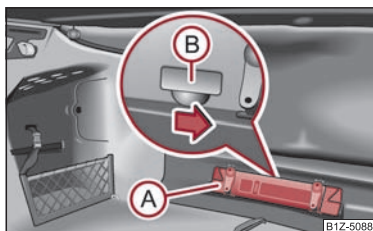

Fig. 29 Emergency unlocking of the boot lid
- Take out the warning triangle (A) ⇒ fig. 29.
- Press the operating lever in the direction of arrow in order to unlock the boot lid. The operating lever is located under the panel (B).